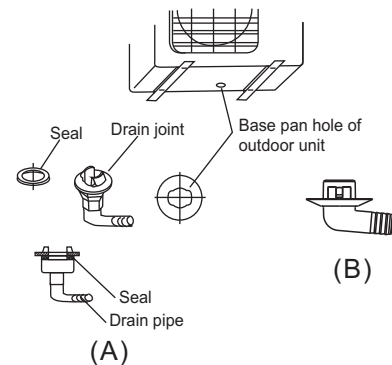

Fig. 15
For the drain joint with the seal (Fig. 15 (A)), first fit the seal onto the drain joint, then insert the drain joint into the base pan hole of outdoor unit, rotate  $90^\circ$  to securely assemble them. To install drain joint as shown in Fig. 15 (B), insert the drain joint into the base pan hole of outdoor unit until it remains fixed with a clicking sound. Connecting the drain joint with an extension drain hose (Locally purchased), in case of the water draining off the outdoor unit during the heating mode.